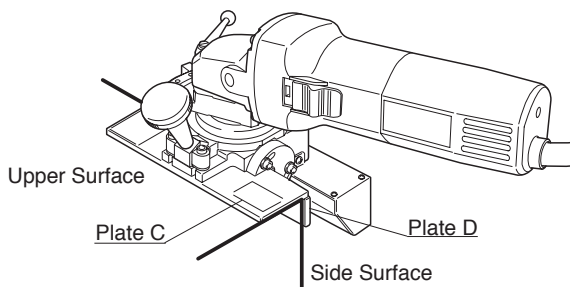

Fig.9
- (1) Place the tool on workpiece with Plate C on upper surface of workpiece and Plate D on side surface, as indicated in Fig.9. Then, turn the Eccentric Ring to adjust the Indexable Inserts to cut properly side surface, and conduct the first cut. (see Fig.10)
- (2) Next, placing Plate C on side surface and Plate D on upper surface, conduct the second cut.